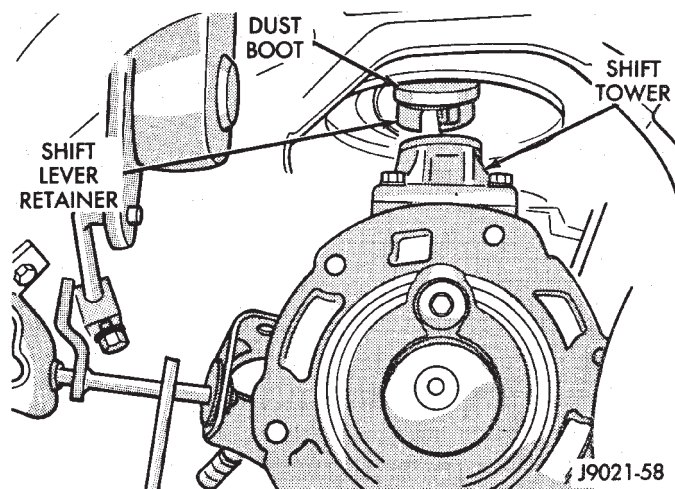

Fig. 2 Removing/Installing Shift Lever
(9) Reach up and around transmission case and unseat shift lever dust boot from transmission shift tower (Fig. 2). Move boot upward on shift lever for access to lever retainer.
(10) Disengage shift lever as follows:
(c) Lift lever and retainer out of shift tower (Fig. 2). **It is not necessary to remove shift lever from floorpan boot. Simply leave lever in place for later installation.**